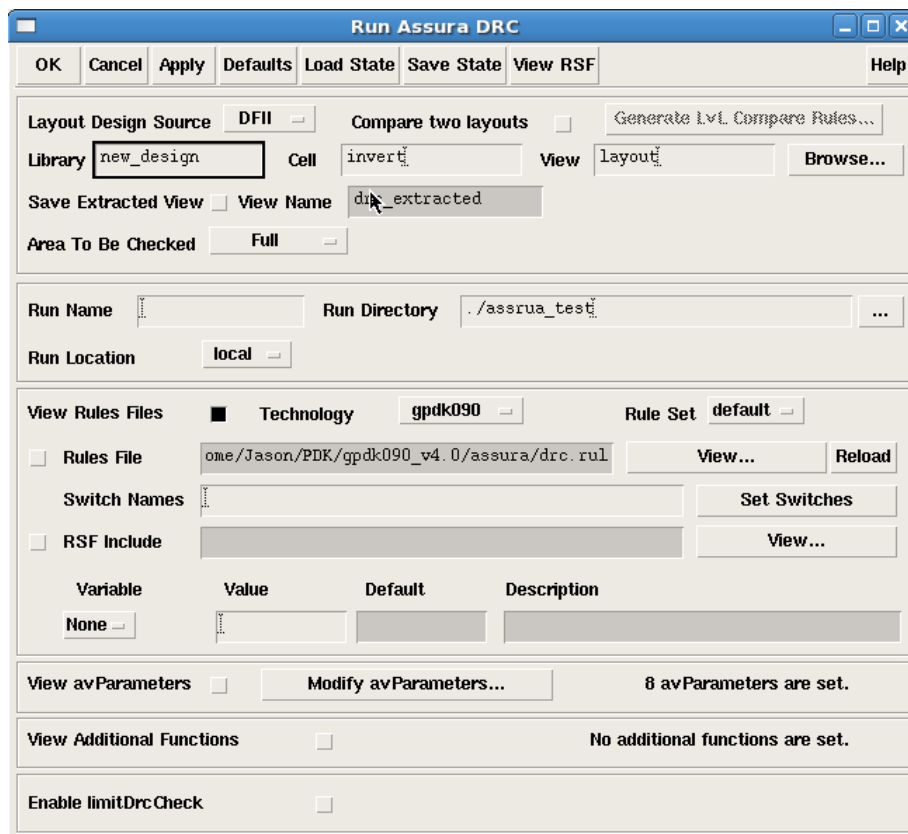

Fig.21
2. Fill in the "Assura run directory" and select the "Technology" field to "assura_tech" (Fig. 21) in Assura DRC window. You can also set the Assura DRC switches and other parameters if needed.